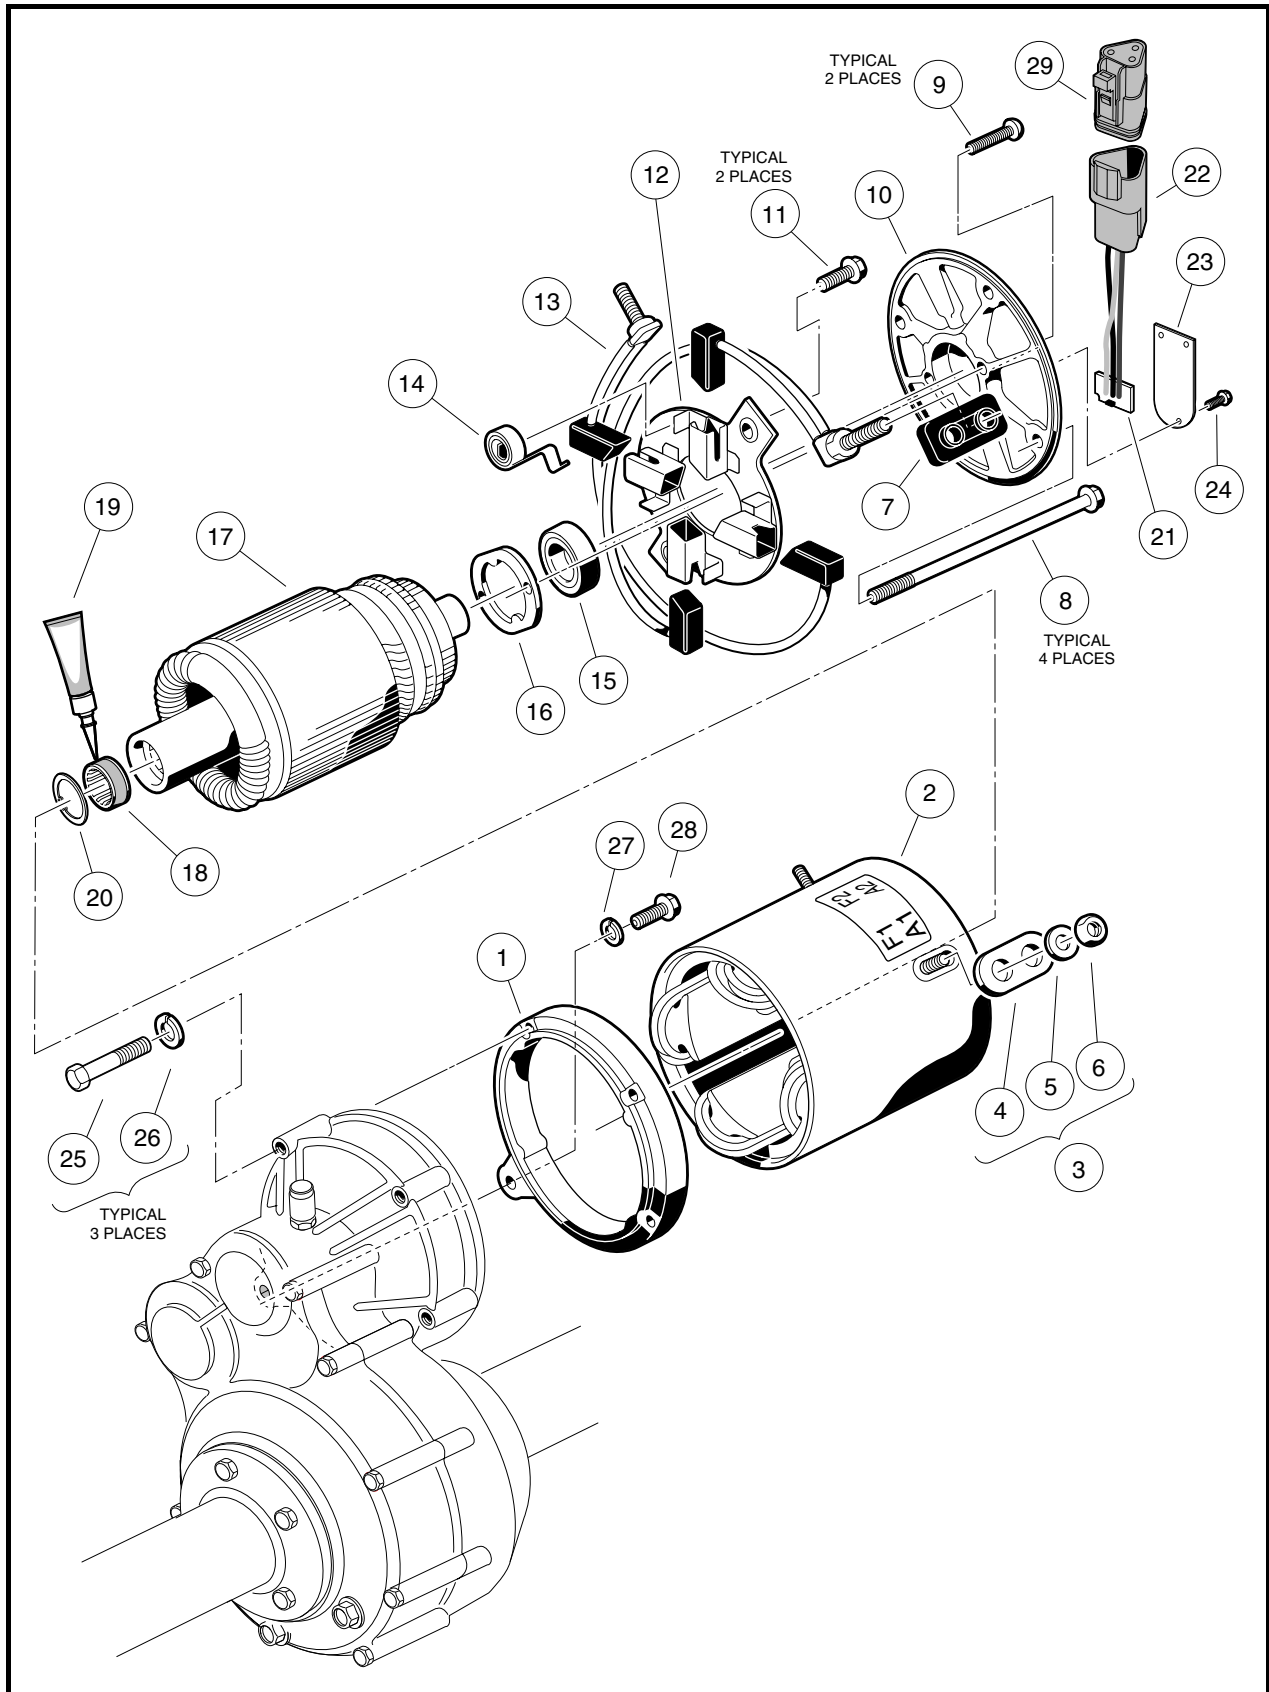
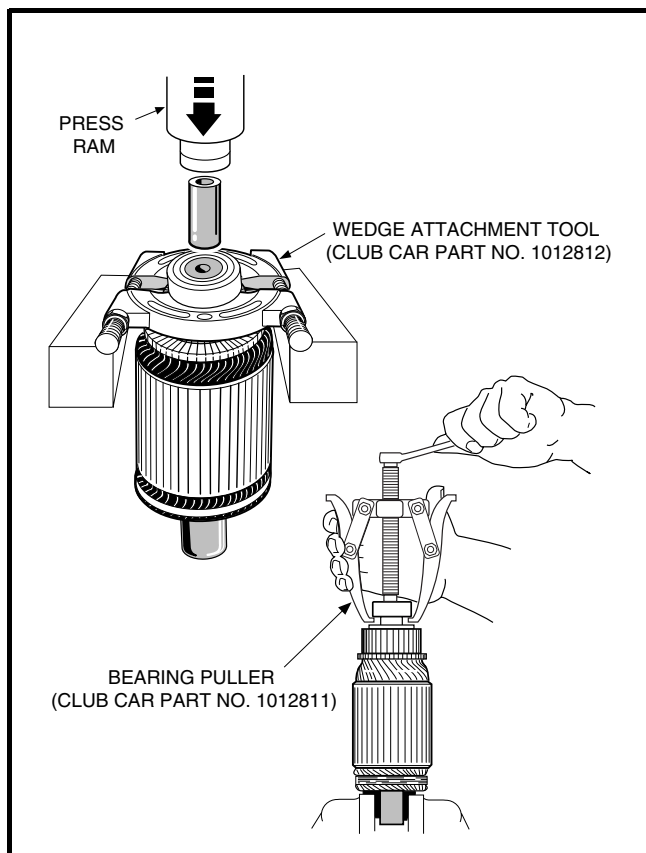

Figure 15-8 Motor
Figure 15-12 Bearing Removal
5. Remove two screws (11) attaching brush rigging (12) to the stator shell (2) (**Figure 15-8, Page 15-7**).
6. Mark the brush terminal posts (A1 and A2) (13) to identify their positions in the stator shell and winding assembly, then remove the nuts (6) and flat washers (5) (**Figure 15-8, Page 15-7**). From the outside, push the posts through the stator shell wall into the interior of the stator shell and winding assembly.
1. Inspect the insulators (4 and 7) for cracks or other damage (**Figure 15-8, Page 15-7**).
2. Inspect the brushes (13) for damage or excessive wear (**Figure 15-8, Page 15-7**). If brushes need to be replaced, **see NOTE in step 2, page 15-10**.
1. Place the wedge attachment tool (Club Car Part No. 1012812) between the bearing (15) and the armature (**Figures 15-8 and 15-12, Pages 15-7 and 15-11**). Make sure the wedge attachment tool is supporting the inner race of the bearing. If a press is not available, secure a bearing puller (Club Car Part No. 1012811) to the bearing and pull the bearing off of the end of the armature shaft. Support the shaft so it will not drop when the bearing is removed (**Figure 15-12, Page 15-11**). Discard the bearing.
- FOR 1999 VEHICLES WITH SERIAL NUMBER 9912-752697 AND GREATER, THE GUIDE RING (18) AND SNAP RING (20) HAVE BEEN ELIMINATED (**FIGURE 15-8, PAGE 15-7**).
1. Using snap ring pliers, remove the snap ring (20) (**Figure 15-8, Page 15-7**).
2. After the guide ring is installed, allow the glue to set for 24 hours before installing the snap ring (20) and installing the motor onto the transaxle (**Figure 15-8, Page 15-7**).
- MAKE SURE THE BEARING RETAINER (16) (**FIGURE 15-8, PAGE 15-7**) IS POSITIONED ON THE ARMATURE SHAFT BEFORE THE BEARING IS PRESSED ON.
3. With brush rigging (12) facing down and held slightly above stator shell (2), insert the two terminal posts through insulators in stator shell wall at the A1 and A2 positions. Insert brush holder screws (11) through the rubber sealed holes in the rigging and into the threaded holes in the mounting bracket (**Figure 15-8, Page 15-7**). Tighten the screws to 20 in.lb (2.2 N-m). **See also Figure 15-14, Page 15-13.**
6.1. Attach the end shield (10) to bearing retainer (16) by aligning the two holes in the bearing retainer with the two mating holes in the end shield and installing the screws (9) (**Figure 15-8, Page 15-7**). Tighten the screws to 17 in.lb (1.9 N-m). **See following NOTE.**
6.2. Align the match marks on the end shield and the stator shell, then install the four screws (8) (**Figure 15-8, Page 15-7**). Tighten the screws to 90 in.lb (10 N-m).
2. Slide the motor onto the transaxle input shaft. Rotate the motor until the locating bolt mounting hole on the motor is aligned with its mounting hole in the transaxle case. Install the bolt (28) (thread in only a few turns) with lock washer (27) (**Figure 15-8, Page 15-7**). **See also Figure 15-16, Page 15-13.** Do not tighten the bolt at this time.
3. Install, but do not tighten the three 1/4-20 bolts (25) with lock washers (26) that mount the motor to the transaxle (**Figure 15-8, Page 15-7**). **See following CAUTION.**